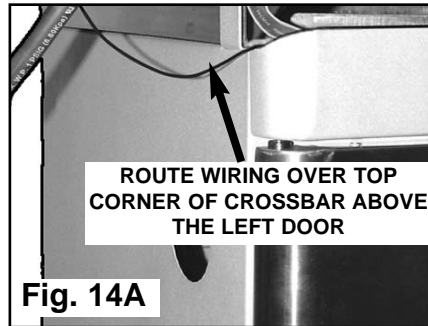

Fig. 14A
- Route the wiring through the top left side of the Crossbar to the inside of cabinet. (Fig. 14A).